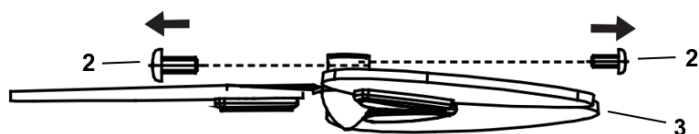

Fig. 11
- Loose the 3 set screws (2) from assembled fan-blades. (Fig.11)